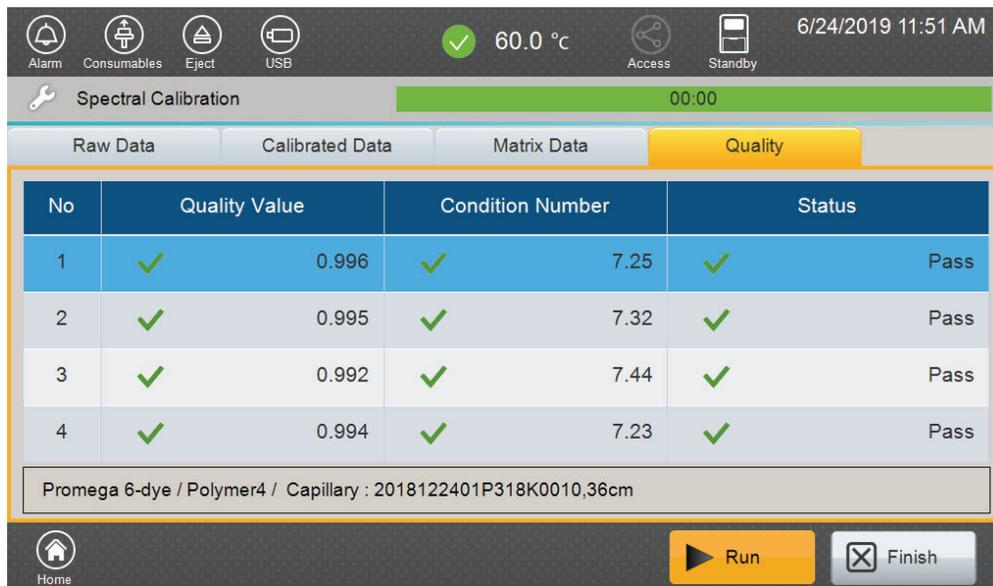

Figure 13. Spectral Calibration 'Quality Tab' screen.
4. Review the quality of the spectral calibration by selecting the 'Quality' tab (Figure 13).